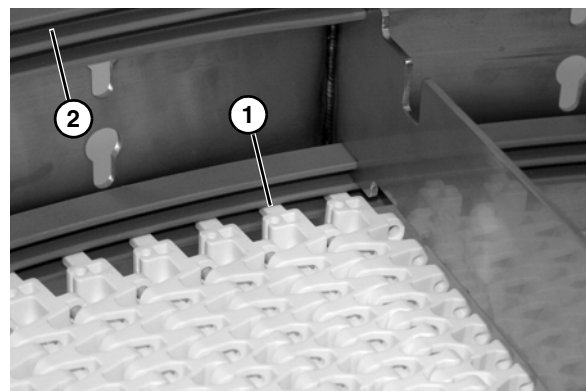

Figure 26
4. Be sure belt tabs are seated in the lower channel of bottom belt guide (Figure 26, item 1) and upper channel of top belt guide (Figure 26, item 2).